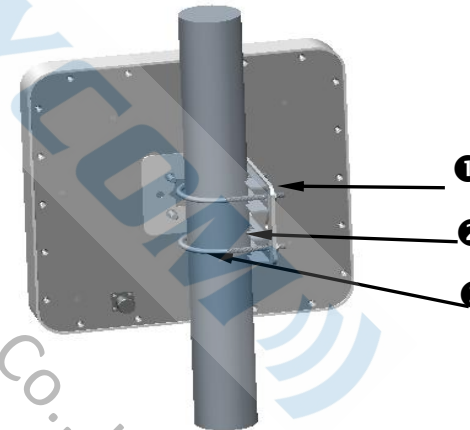

Figure 6. Vertical mounting step 2
①	M6 screw, elastic washer and plain washer
②	Dog tooth
③	M6 U style screw bolt
Step 2: Please use M6 screw, elastic washer and plain washer and "Dog tooth" to fix it on the horizontal and vertical bracket,, please see Figure 6.